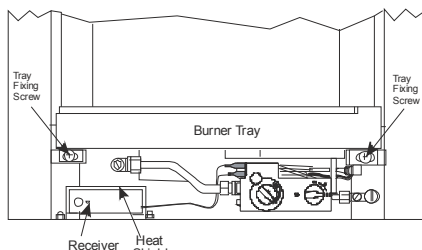

Figure 77
4. Position the receiver under the heat shield as shown in **Figure 77**.
2. Fit the connectors on the cable to the drive motor ensuring correct polarity. The cable connectors must be matched to the appropriately sized spade connector. Position the battery pack inside the heat shield (see **Figure 77**).